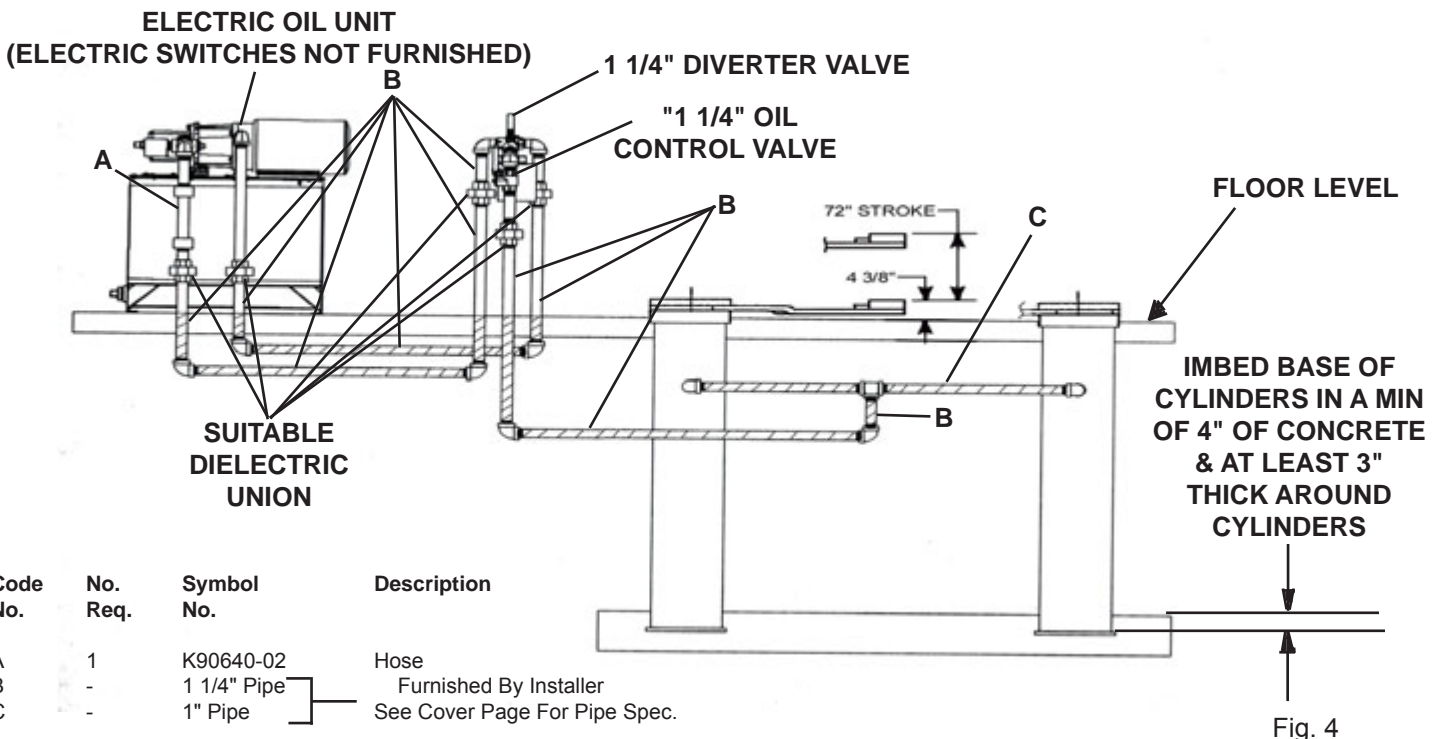

Fig. 4
6. COMPLETE PIPING as shown in Fig. 4. Location of oil reservoir tank is optional. Install wall control valve assembly as shown on page 12.
- C. Fill reservoir to the full level on the oil gauge for (1) 22E lift, or approximately 60 gallons.
- E. Open oil control valves until plungers are completely lowered. Check oil level in reservoir using the oil gauge. Add sufficient oil in reservoir to bring the oil level between the lines on oil gauge for (1) 22E lift (see page 15). Replace oil gauge.
8. IMBED BASE OF CYLINDERS IN 4" MIN. OF CONCRETE & AT LEAST 3" THICK AROUND CYLINDERS. See figure 4.